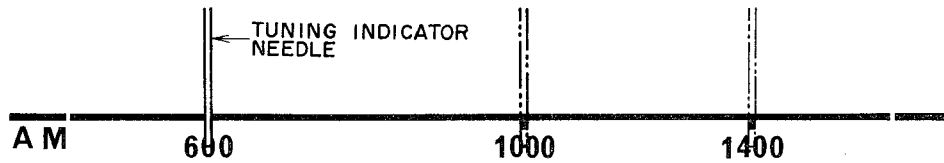

Fig. 25
- 8) For dial setting positions, see Fig. 25.
- 8) For band width adjustment dial position, refer to Fig. 25.